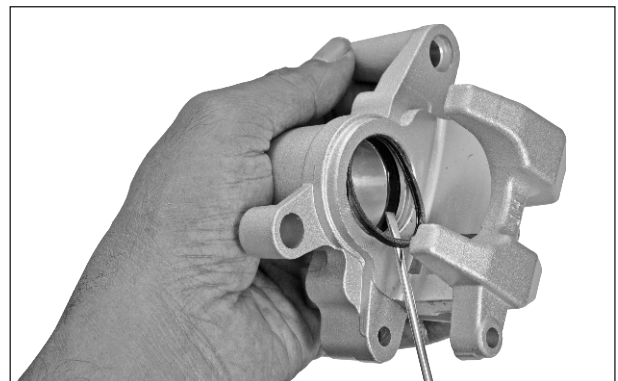

Fig. 6.120
- Remove the dust seals with a bent plastic / brass tool to avoid scratches on the caliper bore. (Fig. 6.120)